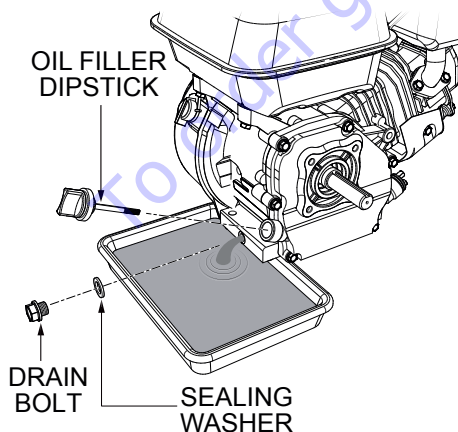

Figure 23. Engine Oil (Draining)
3. Drain the engine oil when the oil is warm as shown in Figure 23.